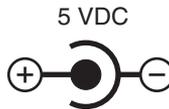

Figure 2. Power connection barrel receptacle 5 VDC diagram
- The power connection to the CPE is a 2.5 mm barrel receptacle with the center conductor positive (see Figure 2).